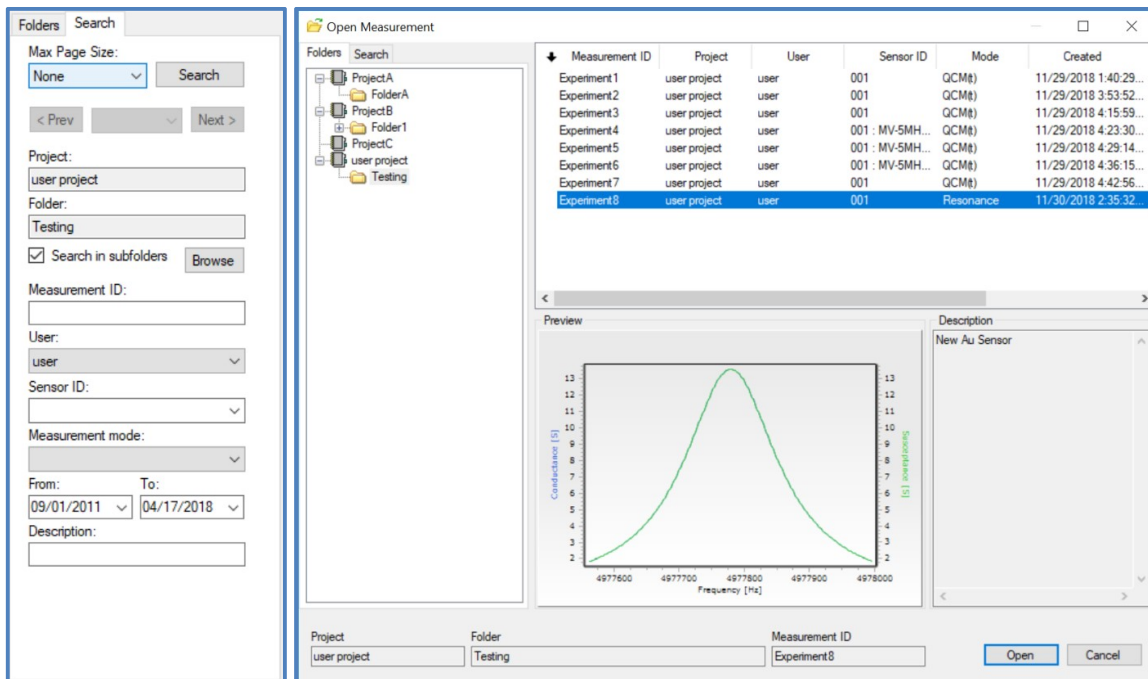

Figure 28. Open Measurement window. Left: Search tab, Right: Folders tab selected.
The measurement to be opened can be browsed in the projects and folders on the Folders tab (Figure 28, right) or by searching for any of the substantial characteristics of the measurement in the Search tab (Figure 28, left). The program searches for any given search parameters; any empty fields are disregarded. There is a logical “and” relationship between the various search parameters.
- **Project, Folder:** By default the search is performed in the project and folder selected on the Folders page. If no selection had been made, the search is performed in all projects and folders. When clicking on the Browse button the “Browse for folder” dialog box (Figure 28) is displayed where the search location can be changed. If the search in subfolders checkbox is selected, the search is also carried out in subfolders; otherwise, the program only searches in the given folder.